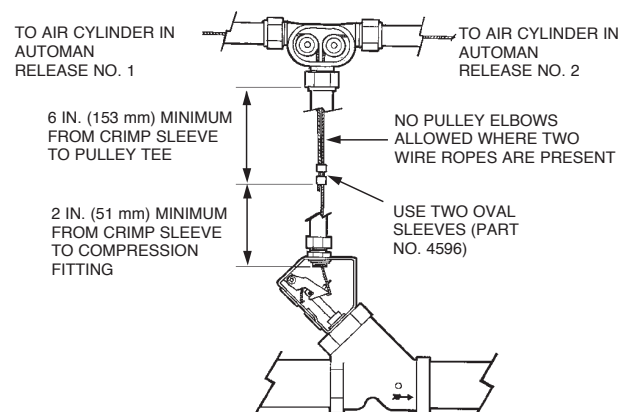
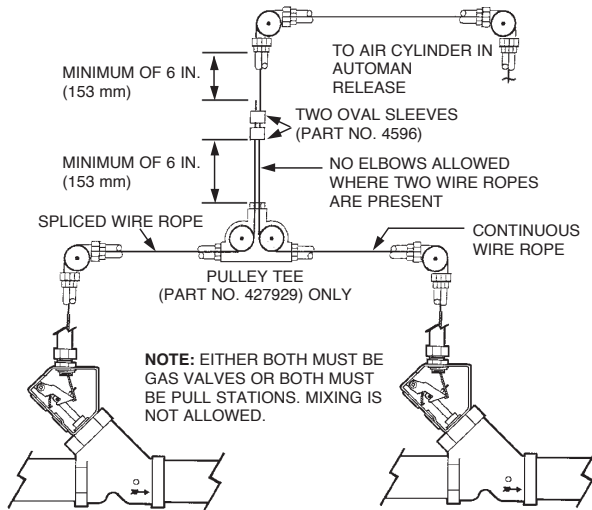

FIGURE 5-49
FIGURE 5-50
18. **Note:** If utilizing a pulley tee to operate either a single mechanical gas valve from two AUTOMAN releases or two mechanical gas valves from one air cylinder in an AUTOMAN release, see Figure 5-49 and Figure 5-50 for installation instructions. Maximum length of the wire rope to each AUTOMAN release must not exceed 150 ft (45.7 m) and maximum number of elbows must not exceed 20.